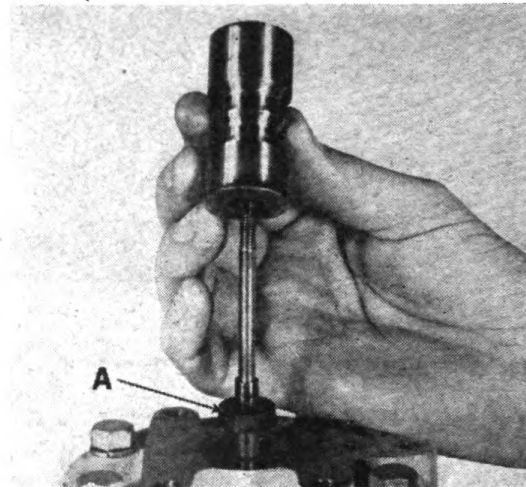
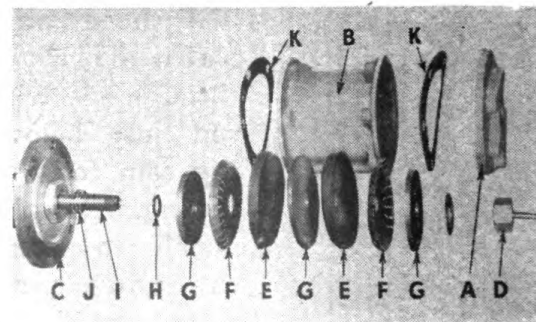

Figure 173
Figure 174
In order to determine whether the air leakage is out of the air valve or passing by the main cup leathers, make a blind gasket to be used between the air valve body and the cylinder head. If air leaks out of the exhaust when air is applied, it is known that the leak is in the air valve. If no air leaks out when a blind gasket is used, the leakage is due to faulty valve rod packing (See Figure 173), main cup leathers, or the gasket (See Figure 174). If the leakage is in the air valve, it can be easily removed for reseating or for replacement of the valve seat gasket.
(d) If the air valve trip rod packing in the cylinder head leaks air it must be replaced. To replace this packing refer to operations a(1) and a(2) page 76. Remove cam and replace packing ("A" Figure 173).
(e) If the main cup leathers by-pass air due to lack of oiling or dirt in the air stream, they should be replaced. Refer to operations a(1) and a(2) page 76. Remove the cylinder head ("A" Figure 174) from the cylinder ("B"). Remove the air cylinder from the base casting ("C"). Remove the large hexagon nut ("D") which retains cup leather ("E"), spreaders ("F"), piston plates ("G") and the gasket ("H") from the piston rod ("I").
Flats have been placed on the piston stop ("J" Figure 174) so a wrench can be used to hold the rod
in position while unscrewing the large hexagon nut ("D"). The cup leathers and cylinder can now be inspected and replaced if necessary. Make certain that the gasket ("H") is used below the bottom piston plate on the piston rod. This gasket prevents air from leaking along piston rod. In replacing the cup leathers it is advisable to assemble the cup leathers, piston plates, and spreaders in the air cylinder from opposite ends. Air cylinder gaskets ("K" Figure 174) should be replaced when reassembling air motor. Care should be taken that all sealing surfaces and gaskets are free from dirt and grit.